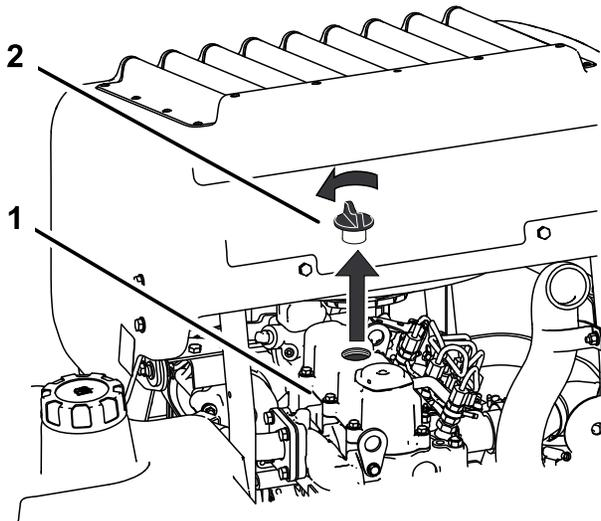

Figure 42
6. Remove the oil filler cap from the top of the engine (Figure 42). This will help the oil to drain.
2. Remove the oil filler cap and the dipstick (Figure 42).